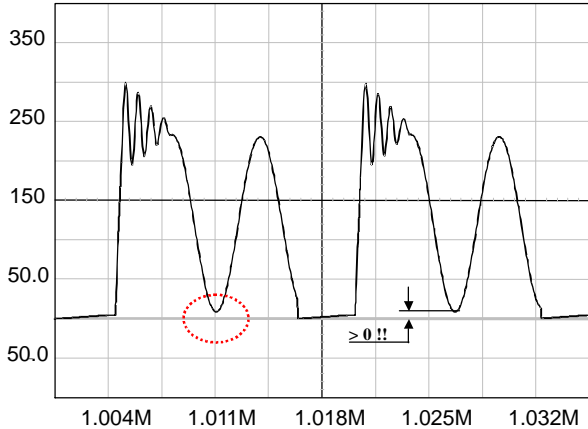

Figure 42. The reflected voltage shall always be greater than the minimum input voltage to avoid the forward biasing of the MOSFET body–diode.
1. The lateral MOSFET body–diode shall never be forward biased, either during startup (because of a large leakage inductance) or in normal operation as shown by Figure 42. This condition sets the maximum voltage that can be reflected during t_{off} .